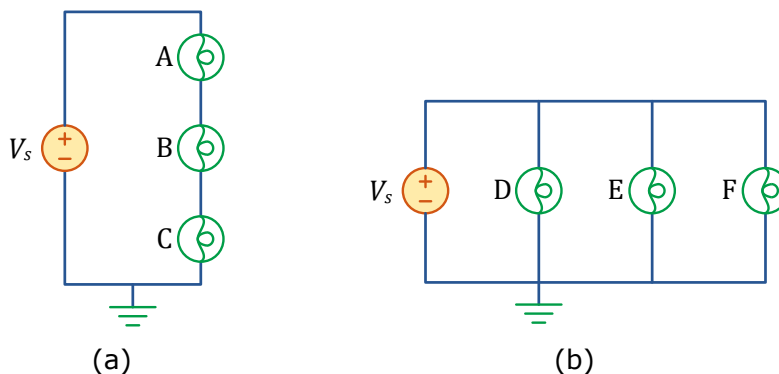

Figure 2.3: Simple circuits with lightbulbs and DC power supply for Lab Experiment 2: (a) Three lightbulbs in series and (b) three lightbulbs in parallel.
- 7 Now build the circuits given in Figure 2.3 and set the power supply to 12 V ($V_s = 12\text{ V}$). Compare the brightness of the lightbulbs in these two circuits with the ones in Figure 2.2(b) and Figure 2.2(c).